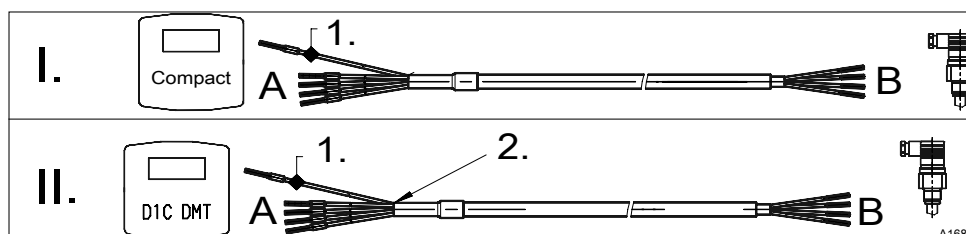

Fig. 2: Connection of the measuring line
red on Compact controller:	Shielding (1) is connected on the ProMinent Compact controller, I A in Fig. 2
red on D1Ca, DMTa	Shielding (1) is cut off at (2) and is not connected on the D1Ca or DMTa, II A in Fig. 2
Electrical connection, shielded measuring lines on sensors with DIN 4-pin plug in Fig. 2 I B, II B